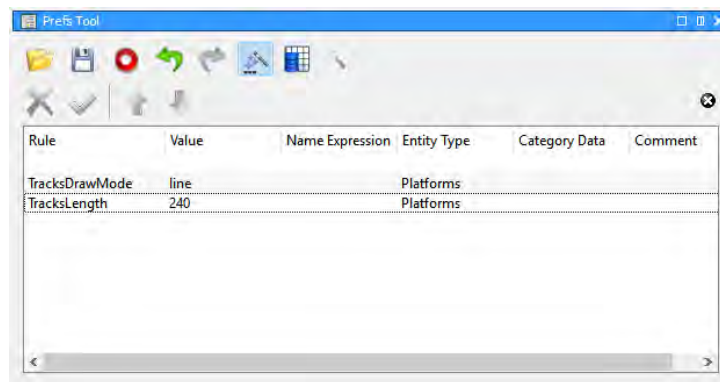

Figure 5.16: Added Preference Rules
9. Toggle the  icon to display the preference rules list and verify added preference rules. See Figure 5.16 for reference.